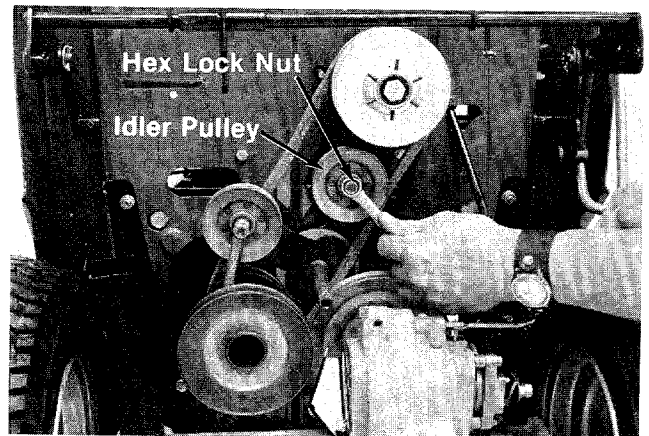

FIGURE 35.
10. Remove the idler pulley by removing the hex lock nut. See figure 35.